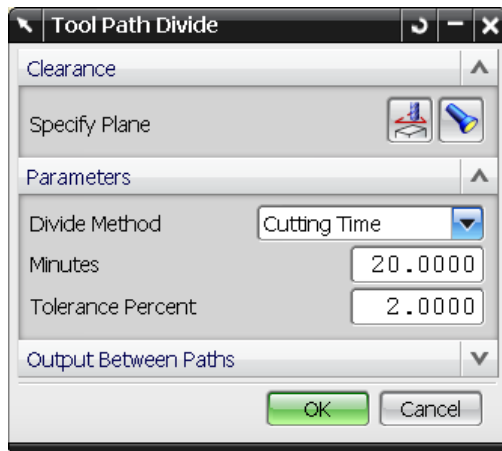

Figure 8.9. Options of tool path division
35. A dialog box for the division definition will appear — figure 8.9.